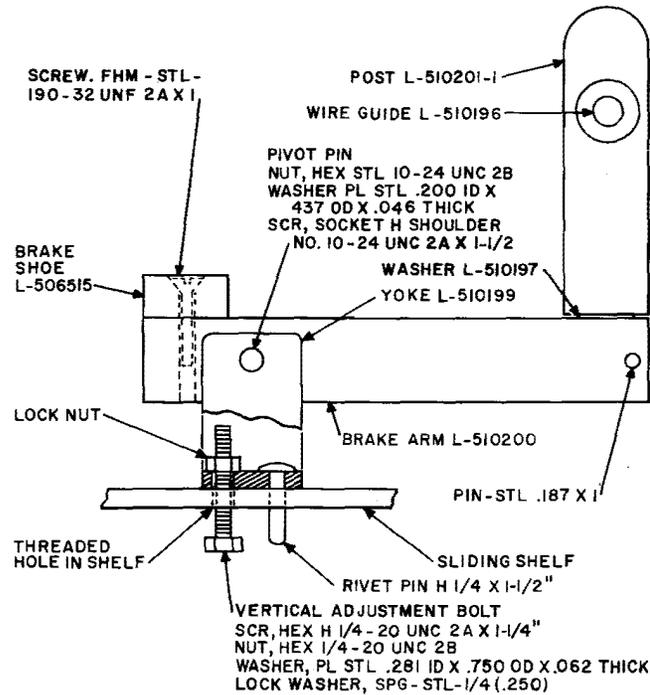

Fig. 6—Automatic Brake Assembly
braking action is applied to the lower flange of the reel. The brake has a vertical and a horizontal adjustment (Fig. 6). When brake adjustments are necessary, proceed as follows.
4.06 Automatic Brake Shoe: The rubber shoe on the automatic brake is replaced by removing the pivot pin on the yoke and withdrawing the brake arm assembly (Fig. 6). This exposes the brake shoe for removal of the captive screw. Apply locktite, or equivalent, to the threads in the brake arm prior to assembly. The screw should be recessed 1/16 inch below the brake shoe surface.